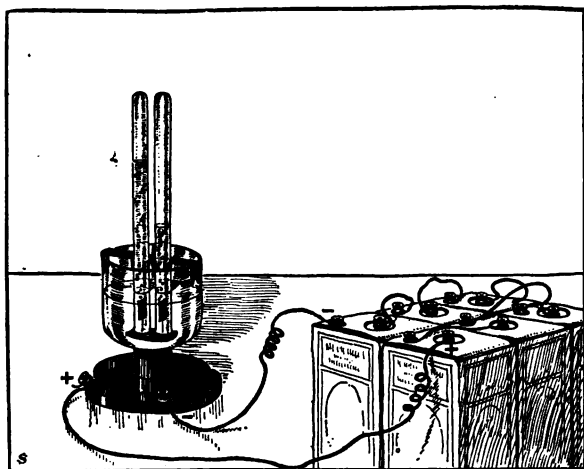

FIG. 47. The liquid water is broken up into two gases, hydrogen and oxygen.
**A study of the chemical composition of water.** There is a very instructive experiment which will interest you, though you may not possess the apparatus for making it yourself (Fig. 47). It will answer an important question which the chemist is always asking, not only about water, but about every substance in which he becomes interested. This question is: Of what is it composed? The ancients called water an element because they
**Breaking water into two gases.** Figure 47 shows an apparatus for decomposing water. It consists of a battery of electric cells, the wires of which end in platinum strips, called electrodes. These electrodes are in the open ends of test tubes which have previously been filled with water to which a small amount of sulfuric acid has been added. The water between the test tubes forms part of the circuit of the battery, and when the current begins to flow, the electricity passes from one electrode to the other through the water. When this happens, the molecules of water are broken up and bubbles of gas are seen rising in the test tubes. It will